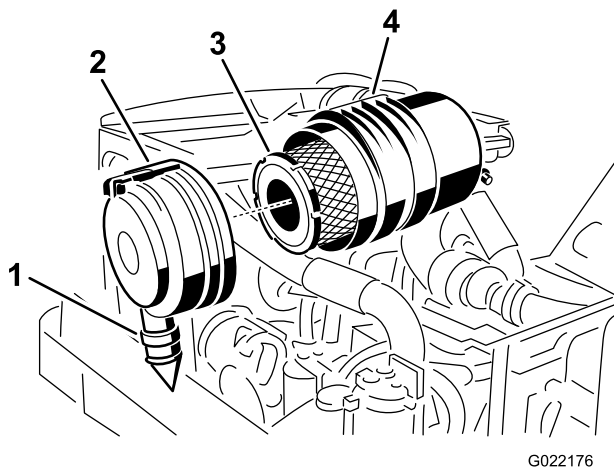

Figure 117
4. Remove the primary filter (Figure 117).